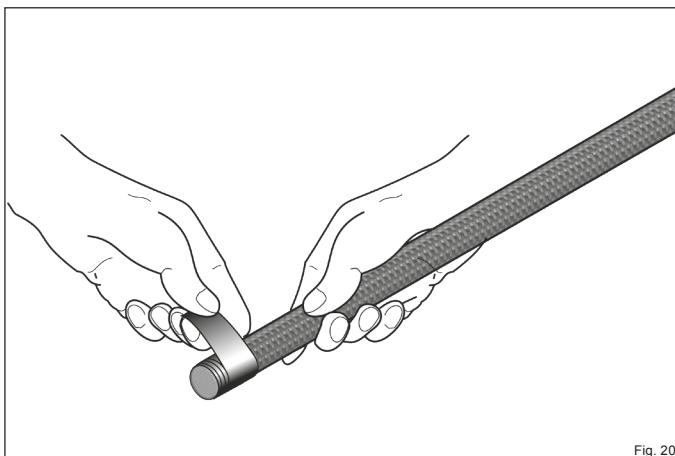
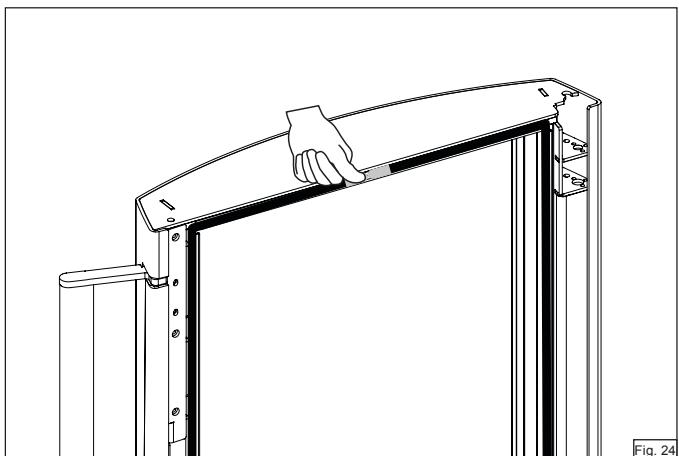

Fig. 20
Fig. 24
- Wrap approx. 3 cm of one end of the new seal with copper tape (Fig. 20).
- Also wrap this end in copper tape (Fig. 20) and push the seal into the rail (Fig. 24)